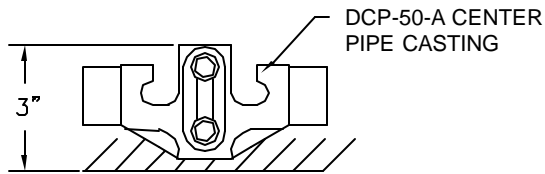

Fig. 1-1
1. Mount the DCP-50-A center pipe casting under the lintel (center of opening). If the gate is to be face mounted, position the top of the DCP-50-A center pipe casting 3" above the bottom of the lintel (Fig. 1-1).